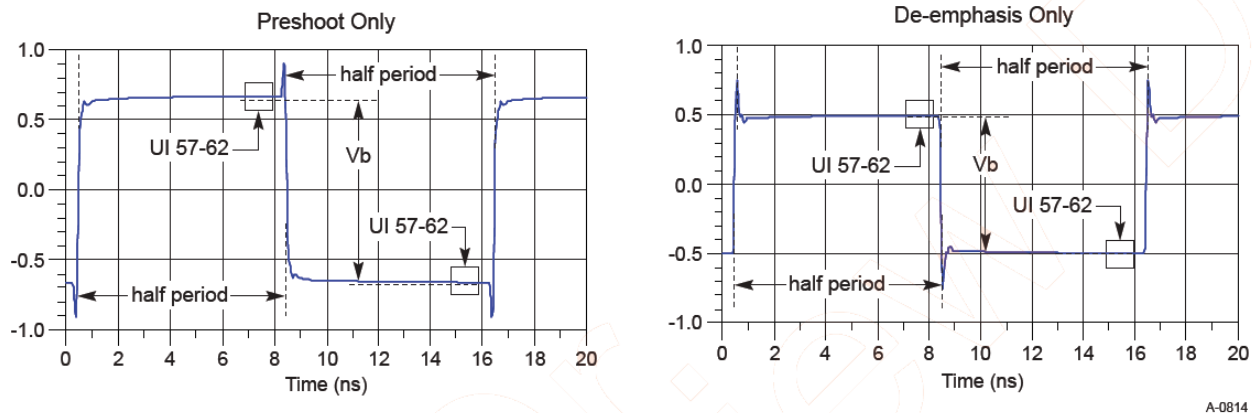

Figure 222 Waveform measurement points for preshoot and de-emphasis
8.0 GT/s, 16.0 GT/s and 32.0 GT/s PCIe signaling must support the full range of presets given in Table 8-1 (PCIe Base Specification Revision 5.0). Presets are defined in terms of ratios, relating the pre-cursor (V_c) is referred to as pre-shoot, while the post-cursor (V_b) is referred to as de-emphasis. This convention permits the specification to retain the existing 2.5 GT/s and 5.0 GT/s definitions for Tx equalization, where only de-emphasis is defined, and it allows preshoot and de-emphasis to be defined such that each is independent of the other. The tolerances in Table 8-1 (PCIe Base Specification Revision 5) also apply to 2.5 and 5.0 GT/s de-emphasis. The maximum swing, V_d , is also shown to illustrate that, when both c_{+1} and c_{-1} are nonzero, the swing of V_a does not reach the maximum as defined by V_d . The high frequency nature of PCIe signaling makes measurement of single UI pulse heights impractical. Consequently all amplitude measurements are made with low frequency waveforms as shown in Figure 222.
8.0 GT/s, 16.0 GT/s and 32.0 GT/s PCIe signaling must support the full range of presets given in Table 8-1 (PCIe Base Specification Revision 5.0). Presets are defined in terms of ratios, relating the pre-cursor and post-cursor equalization voltages. The pre-cursor (V_c) is referred to as pre-shoot, while the post-cursor (V_b) is referred to as de-emphasis. This convention permits the specification to retain the existing 2.5 GT/s and 5.0 GT/s definitions for Tx equalization, where only de-emphasis is defined, and it allows preshoot and de-emphasis to be defined such that each is independent of the other. The tolerances in Table 8-1 (PCIe Base Specification Revision 5) also apply to 2.5 and 5.0 GT/s de-emphasis. The maximum swing, V_d , is also shown to illustrate that, when both c_{+1} and c_{-1} are nonzero, the swing of V_a does not reach the maximum as defined by V_d . The high frequency nature of PCIe signaling makes measurement of single UI pulse heights impractical. Consequently all amplitude measurements are made with low frequency waveforms as shown in Figure 222.